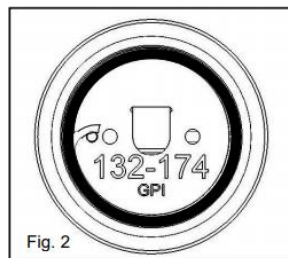

Fig. 2
3. Pre-Installation (Figure 2):
- C. Ensure O-ring is properly seated within O-ring groove as shown in Figure 2.
- D. **Important:** Verify proper operational Frequency, as labeled. (Figure 2).